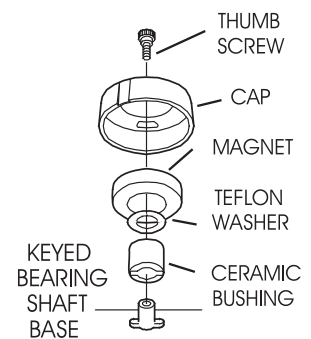

FIG. 5 - AGITATOR
- While the chemistry agitators are disassembled, wipe down the tanks with sponges to eliminate any chemistry residue. Use a separate sponge for each tank. Reassemble the chemistry agitators as shown in Fig. 5. Refill all tanks with warm water to the fill line. Reinstall the drain tubes. Fill all the tanks with warm water to the fill line.